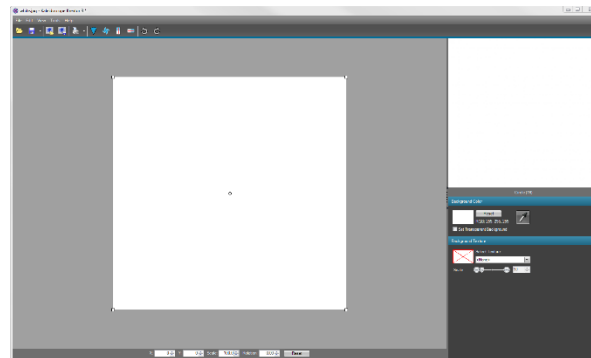
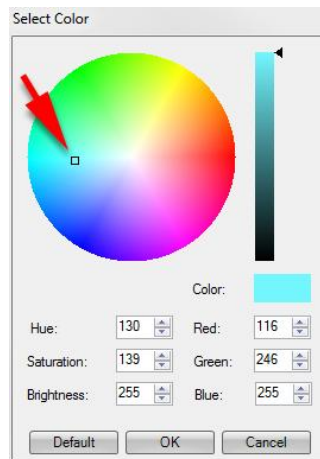
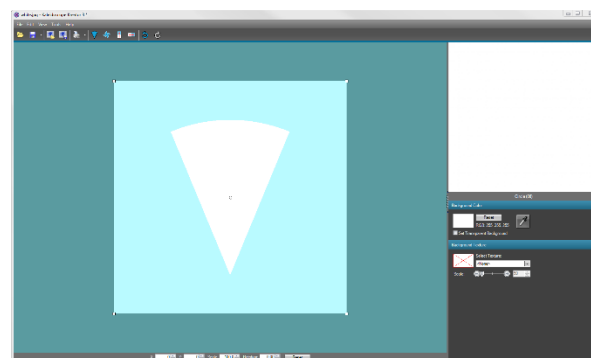

Figure 1
Figure 2
Figure 3
3. You will not be able to see the template shape over the white image. (Fig. 1). So you can see it, change the overlay color by going to Tools>Options. Then click on the Select button next to the Template Overlay Color. Choose any color other than white in the Select Color window that pops up (Fig. 2), then click OK, and OK again. You'll see the overlay color change once you hit the second OK. (Fig. 3)